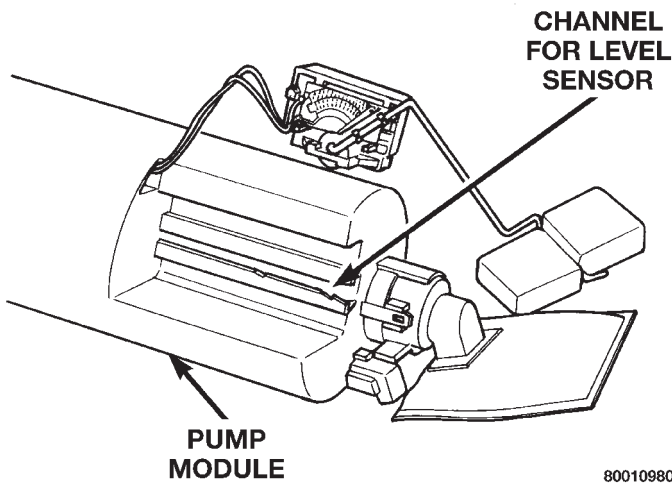

Fig. 25 Installation Channel
(3) While feeding wires into guide grooves, slide level sensor up into channel until it snaps into place (Fig. 25). Ensure tab at bottom of sensor locks in place.